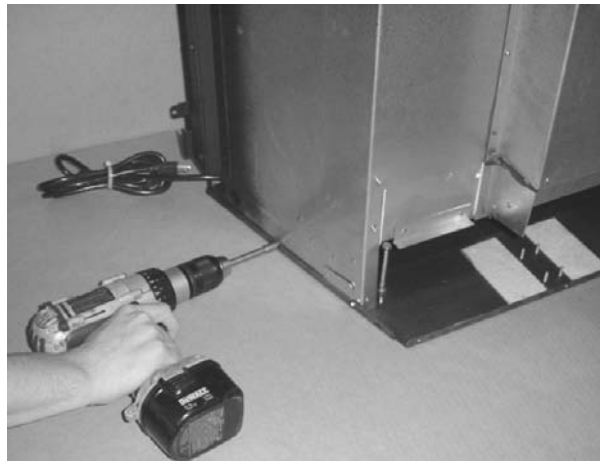

Figure 3
- 2 Remove the two screws on each side of the insert baseplate (see Figure 3).